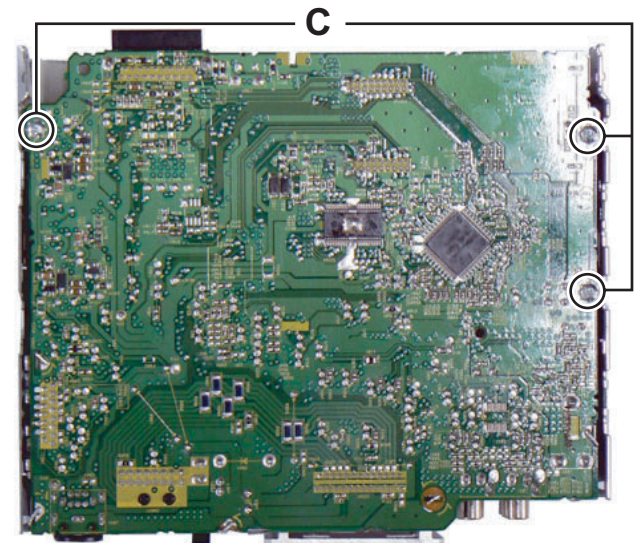

Fig.5
- (3) Remove the three screws **C** attaching the Main board. (See Fig.5)